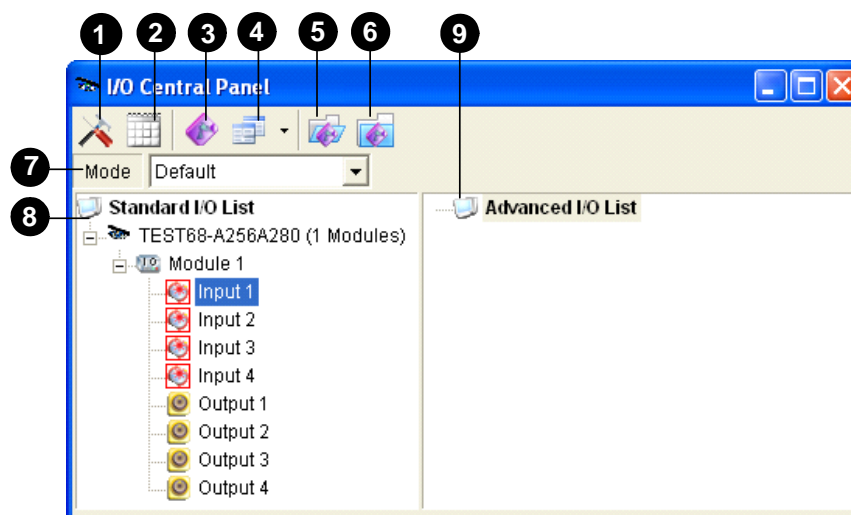

Figure 6-17
[Display Setting] You can define the nature of I/O devices by colors. Note that the setting only affects the **Detail** style of the Advanced I/O List (No. 4, Figure 6-17).
1. Click the Mode drop-down list (No. 7, Figure 6-17), and select **More Edit**. This dialog box appears.
4. To start the mode schedule, click the **Mode Schedule** button (No. 2, Figure 6-17), and then select **Mode Schedule Start**.
- To open the Quick Link window, click the **Toggle Quick Link** button. (No. 3, Figure 6-17).
1. To switch to the Icon style, click the **Advanced I/O List Style** button (No. 4, Figure 6-17) and then select **Icon**.